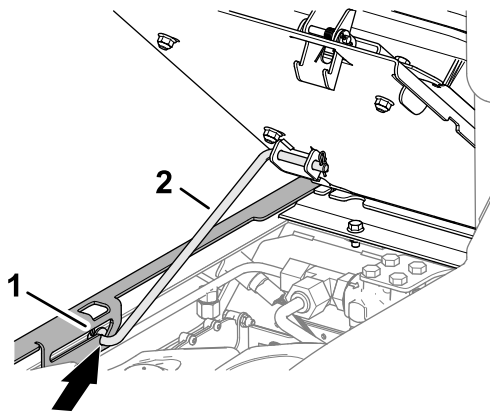

Figure 63
3. Ensure that the forward prop rod seats in the slot detent of the seat support (Figure 63).